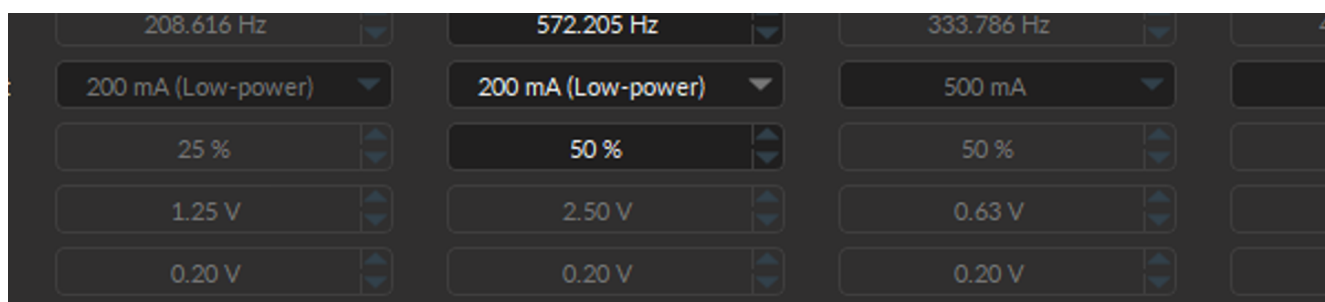

Figure 9.40: Channel(s) configuration window, Analog Input Lock-In
The **Lock-In Mode** parameters are as follows (Fig. 9.40):
1. The **Enable** (Fig. 9.40, 1) row lets users select which output channel to include in the Lock-In settings by clicking the respective check boxes. Each column corresponds to an Analog Out channel of the console (in order, such
2. **Trace Name** (Fig. 9.40, 2) is the identity of the Input and Output Channel(s) enabled for this Lock-In configuration.
- The **AOUT #** number corresponds to the Analog Out port on the console that sends electrical information (including the reference frequency) to the *LED Driver*. While you cannot change the **AOUT #** since it is native to each column of the **Carrier Frequency Options** (Fig. 9.40), changing which port is enabled using the checkbox (Fig. 9.40) or physically moving the cable to a different port on the console allows user to specify the connection of the output.
3. **Reference Frequency** (Fig. 9.40, 4) is the oscillating trigger signal that drives the LED (or device(s) of choice). We recommend using the default values since they are optimized for fiber photometry. But, if modified, frequencies will be re-adjusted in steps of 5.96 Hz. In addition, the reference frequency should not be a multiple of known noise frequency (e.g. 50 and 60 Hz), or a multiple of another reference frequency.
4. **LED maximum current** (Fig. 9.40, 5) is the largest current that the LED can handle. This value should be set either in low power mode (recommended) or based on the intrinsic maximum current of the LED in use (500 mA or 1000 mA, depending on the type of LED).
5. **LED power** (Fig. 9.40, 6) is the percentage of maximum current (converted to voltage) that will be used as V_{max} and in **External Mode** during the recording, since the LED driver outputs a current proportional to the voltage with a conversion factor of 400 mA/V in standard operation mode, and 40 mA/V in low-power mode.
6. **V_{max} Preview** - automatically displays the maximum voltage based on the **LED maximum current** and the **LED power** selected above (Fig. 9.40, 7). **V_{max}** can be changed if the **Custom** LED maximum current mode is selected. The **V_{max}** should never be below 0.3 V, nor above 4.7 V.
- **Note:** If you are using GCaMP and its isosbestic, we recommend that the isosbestic demodulated trace be about half the power of the GCaMP demodulated trace to reduce the risk of photobleaching (as in Fig. 9.40, 6).
7. **Vmin Preview** (Fig. 9.40, 8) - the default value is set to 0.2 V, but can be changed if the **Custom** LED maximum current mode is selected. The **Vmin** should never be below 0.1 V.
8. **Lock-in LPF Frequency** (Fig. 9.40, 9) define the **Cutoff Frequency** of the low-pass filter that extracts the signal and is set to 12 kcps by default. This value was selected because in photometry experiments, the greatest source of noise to the filter is around the carrier frequency above 200 Hz. Thus, with the current filtering algorithm, a cutoff frequency of 12 Hz (corresponding to a decimation factor of 200x) gives the best filtering results.